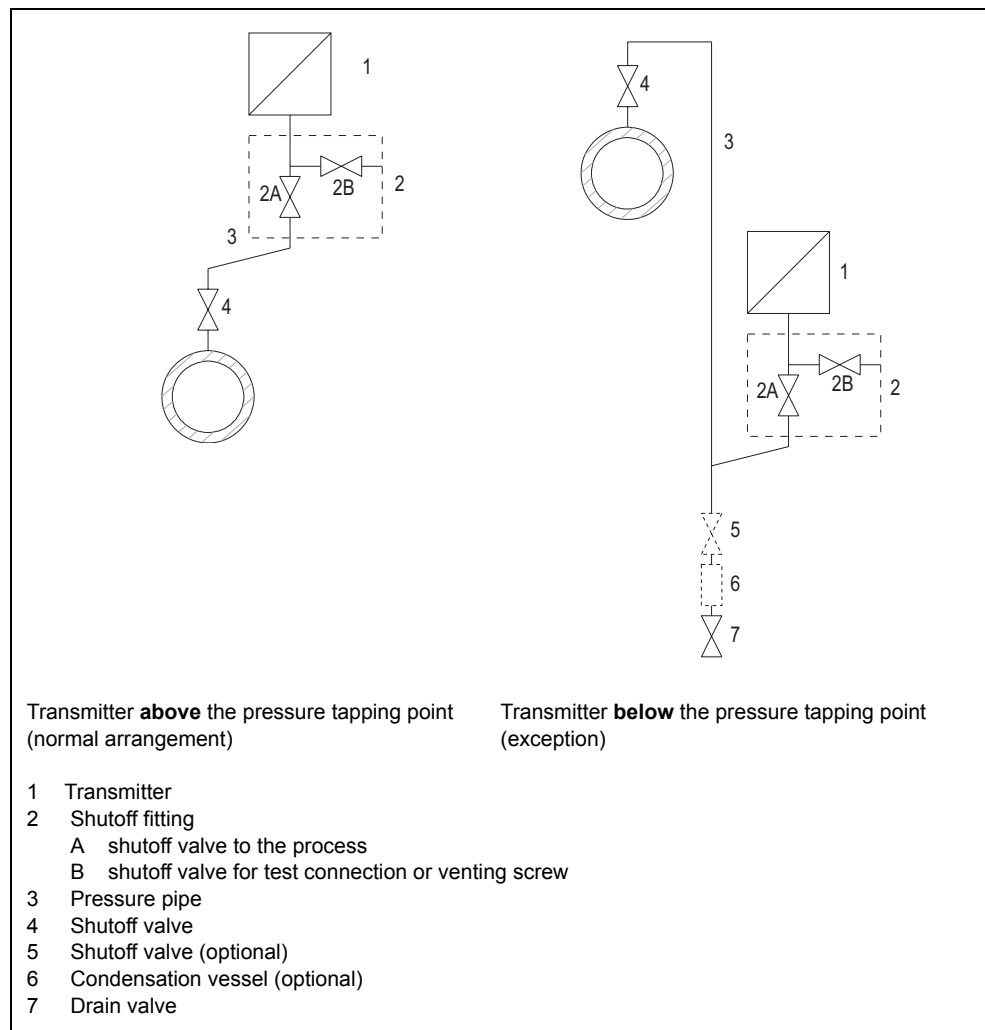

Figure 53 Measuring gases
Wrong or improper operation of the shutoff fittings (Figure 53, pg. 97ff) may result in serious injury or considerable material damage
1. Open the shutoff valve Figure 53, pg. 97, 2B).
2. Apply pressure corresponding to the start of scale through the test connection of the shutoff fitting (2) to the transmitter.
5. Open the shutoff valve (4) on the pressure tap.